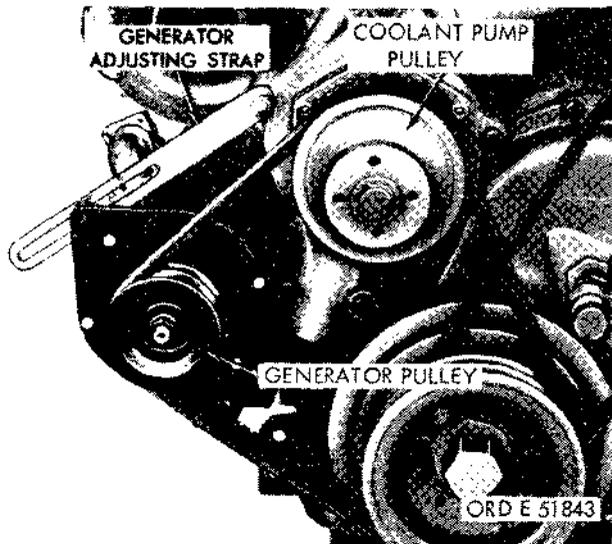

Figure 2-130. Removing fan and generator drive belts.
c. Installation (fig. 2-130).
- (1) Position the belts over the fan, crankshaft, and generator pulleys.
- (2) Adjust the belts as described in *a* above.